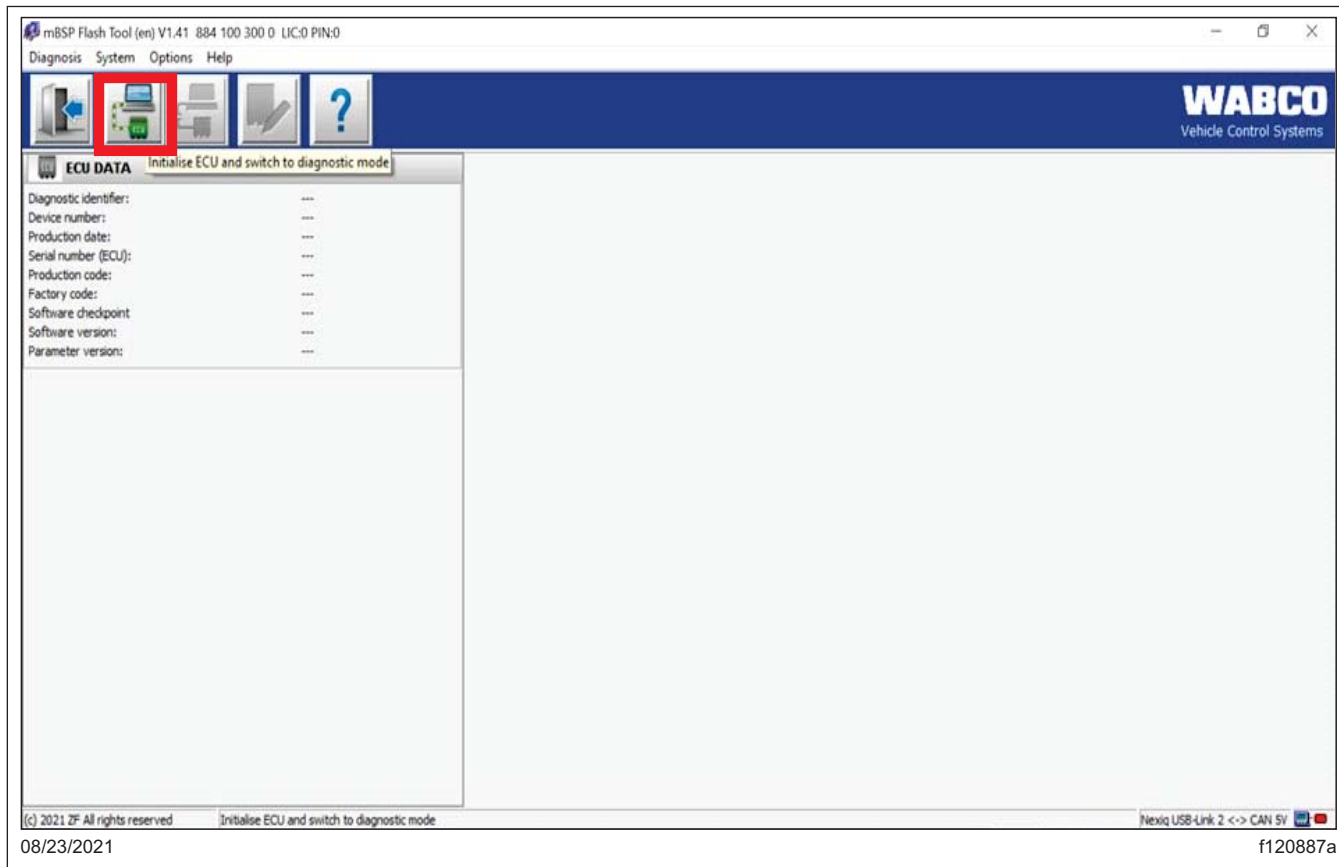

Fig. 5, Initialize ECU and Switch to Diagnostic Mode
12. If the ECU does not automatically connect, select the button in **Fig. 5**, 'Initialize ECU and switch to diagnostic mode.'